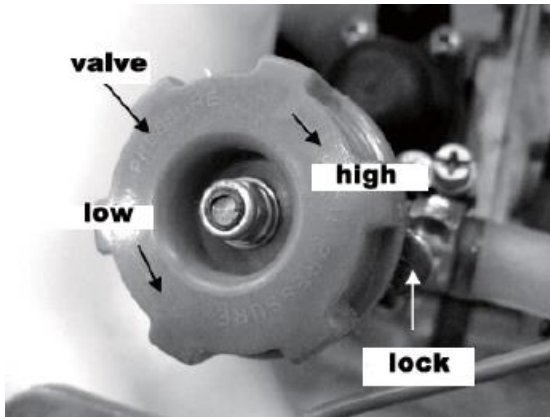

Figure 5
4.3.2 Pressure regulation. When the engine's speed is 5000-6000r/min, regulate the coming out water pressure of plunger pump. This has been done before leaving the factory. If it is necessary to regulate, please do this procedure as per the instruction of Figure 5.